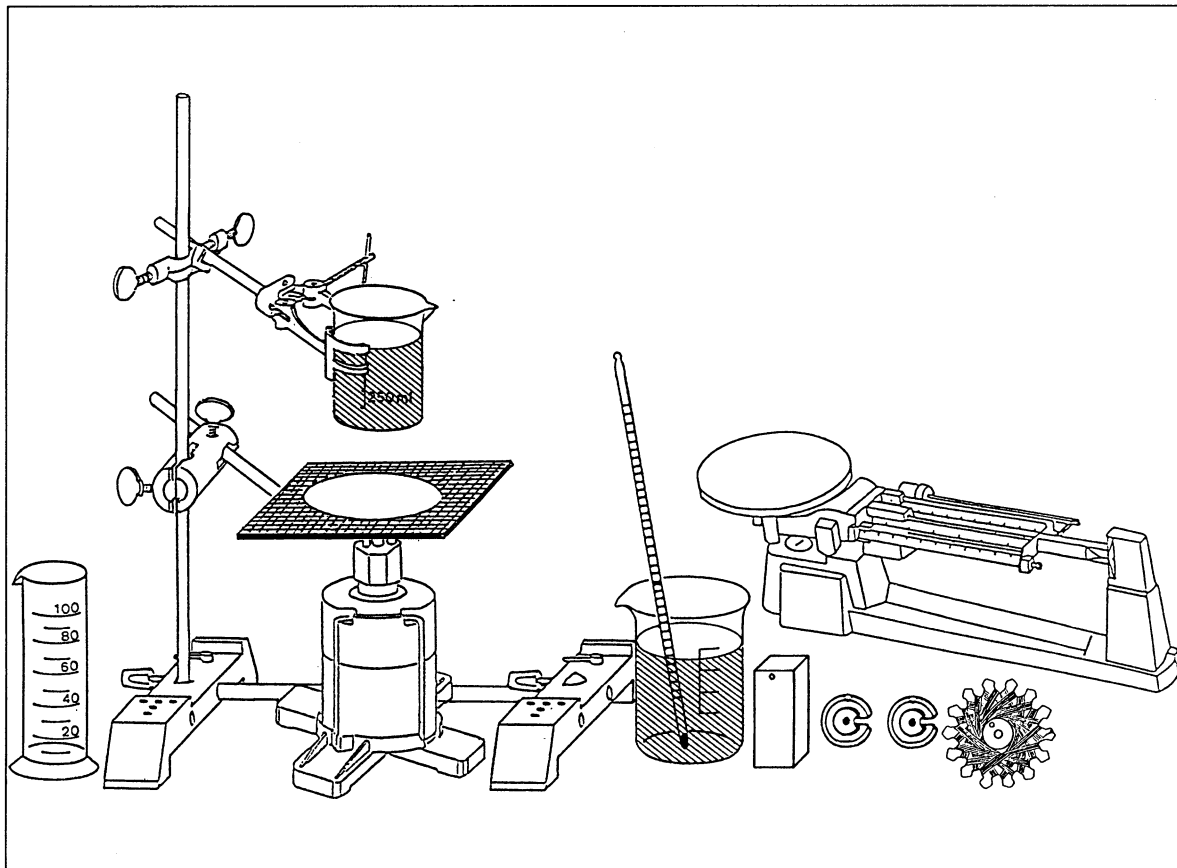

Fig. 1 Setup for investigating the specific heat capacity of solid bodies.
1. Set up the stand as shown in fig. 1.